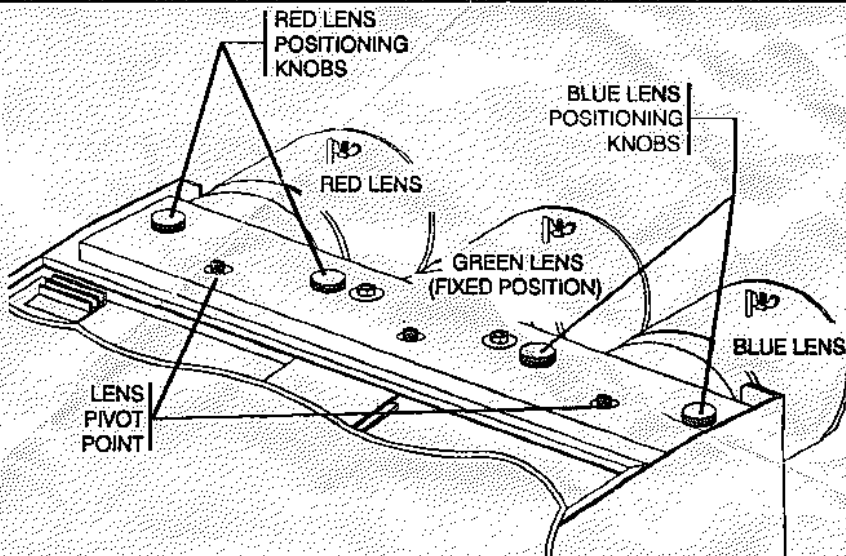

FIGURE 8-6.
- **STEP 6.** RED to GREEN lens positioning. Loosen the two lens positioning knobs located directly behind the RED LENS/CRT assembly. Figure 8-6.